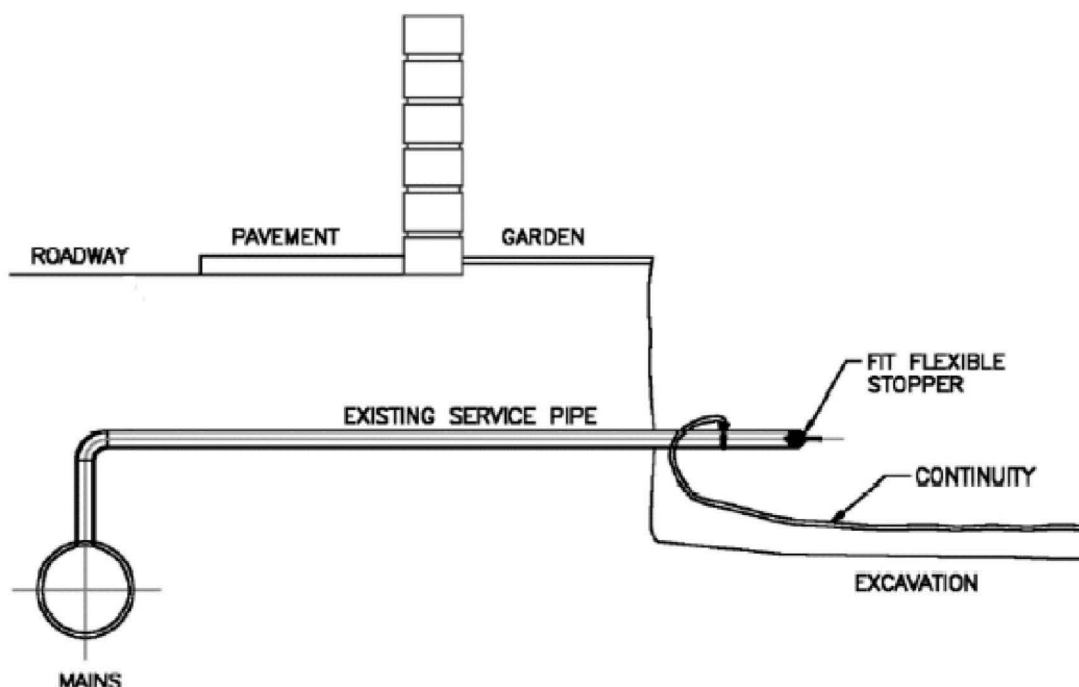

Figure B8 – Live service insertion, cut off service
5. Temporarily seal live service pipe with flexible stopper (Figure B8).